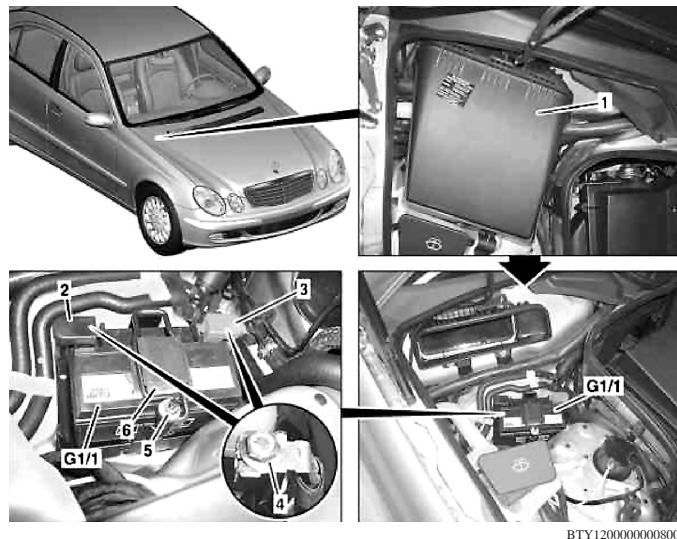

Fig. 3 Auxiliary battery removal
7. Remove housing (1), Fig. 3.
8. Open ground terminal cover (2) of auxiliary battery (G1/1), Fig. 3.
9. Remove bolt (4) of ground line and remove ground line, Fig. 3.
10. Open positive terminal cover (3) on auxiliary battery (G1/1), Fig. 3.
11. Remove bolt (4) from positive line, Fig. 3.
12. Remove nut (5), and fold bracket (6) upward, **Fig. 3**.
2. Install nut (5) and fold bracket (6) upward, **Fig. 3**.
7. Install housing (1), **Fig. 3**.